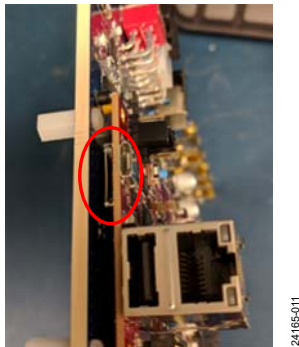

Figure 10. MicroSD Card Slot in MicroZed Board
2. Connect the microSD card to the MicroZed board (the contacts of the microSD card are face up). See Figure 10 for more details.